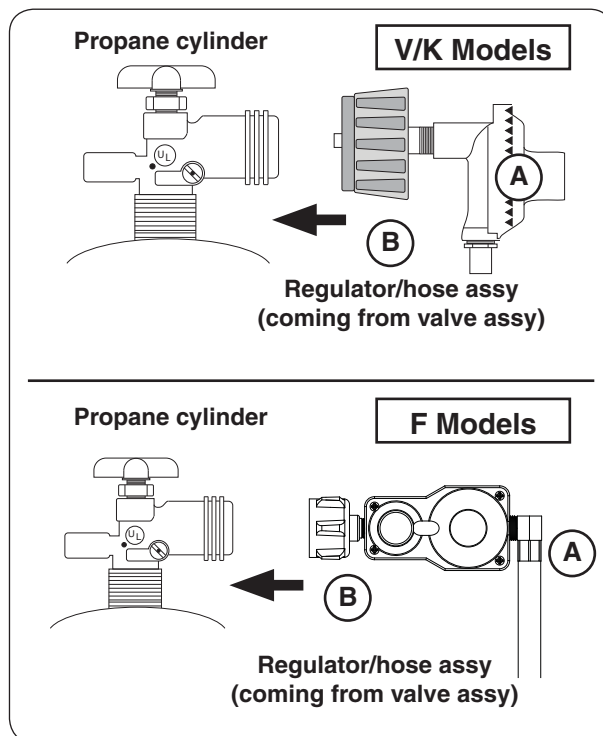

Fig. 23-1 Connecting to an L.P. cylinder
3. Attach the regulator end of the hose assembly to a propane cylinder (not included) and tighten (see Fig. 23-1).